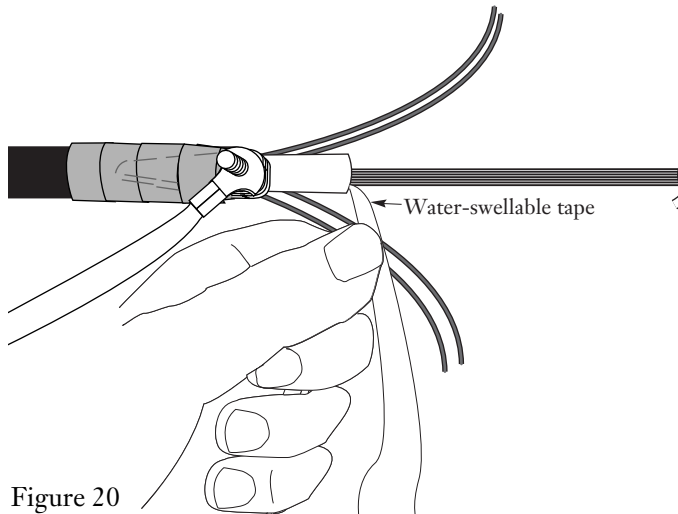

Figure 20
- Carefully separate the water-swappable tape from the ribbons (see Figure 20).
- Use scissors to carefully cut the tape at the buffer tube, making sure not to cut any ribbons (Figure 20).